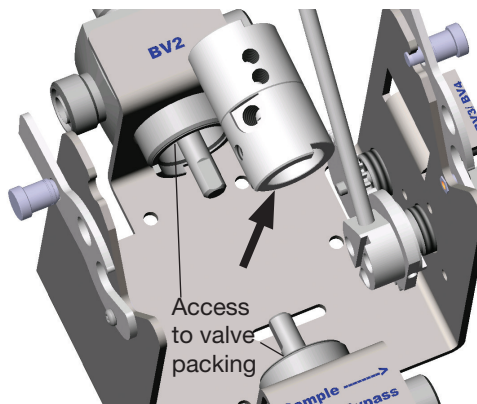

Fig. 4
7. Lift out the black handle subassembly. Fig. 4.